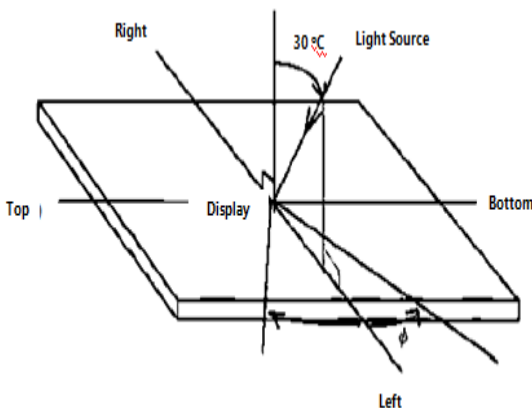

Figure 2
3. Color are all measured by DMS 900 when light source is input from FPC side as shown in figure 2.